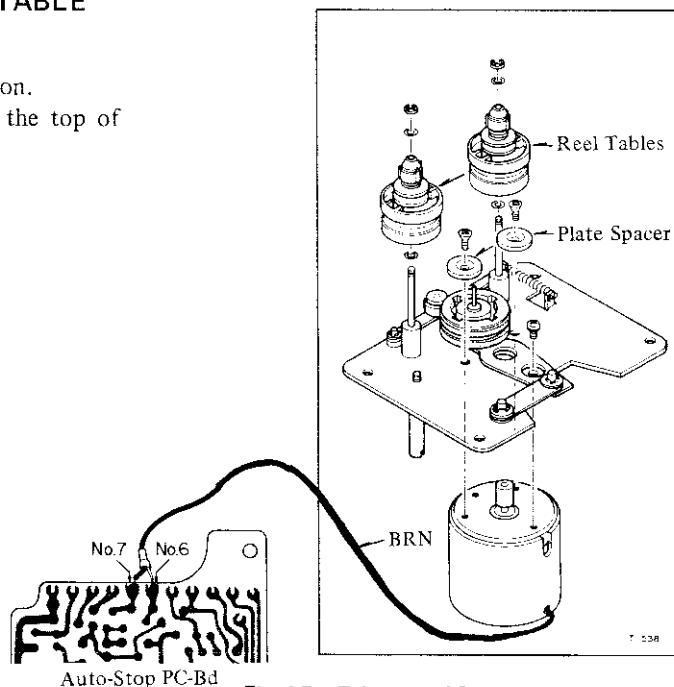

Fig. 4-7 Take-up and Supply Reel Tables Ass'y Removal
8. Unsolder the 1 wire (BRN) from the Auto-Stop PC Bd. See Fig. 4-7.
9. Remove the 3 screws holding Reel Motor. Watch for the 2 Plate Spacers. See Fig. 4-7.